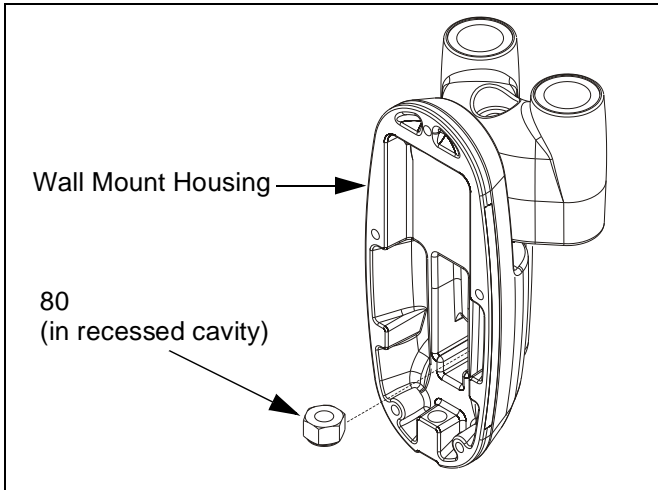

Figure 8: Install Nut
7. Insert nut (80) into recessed cavity of wall mount housing as shown (See Figure 8).